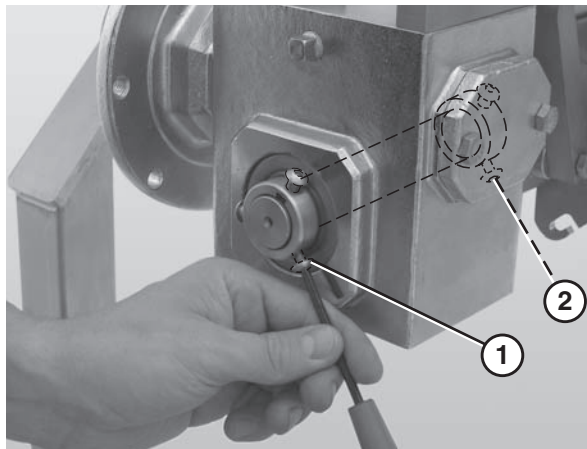

Figure 9
6. Use a 4 mm hex wrench to tighten the outside button head screws (Figure 9, item 1) and the inside button head screws (Figure 9, item 2) that connect the gearmotor to the drive spindle.